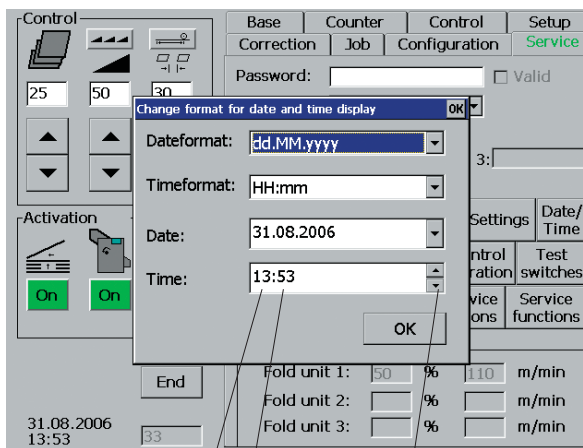

Fig. 83 Setting the time
1. Touch the hour (Fig. 83/1) or minute display (Fig. 83/2) in the window Time.
2. Adjust the time by touching the arrow keys (Fig. 83/3).